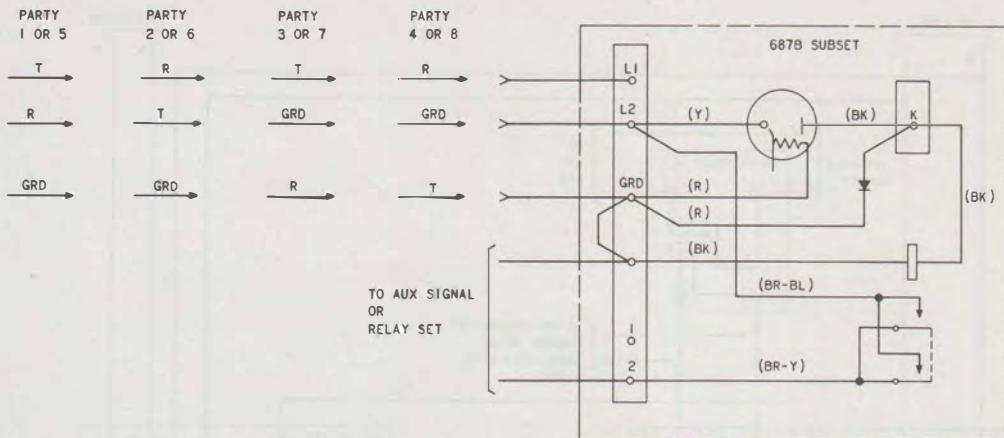

Fig. 28—Connections for Auxiliary Signals on Party Line
6.05 Auxiliary signals may be installed on 4-party full selective or 8-party semiselective lines by connecting a 531C or 687B subscriber set as shown in Fig. 28.